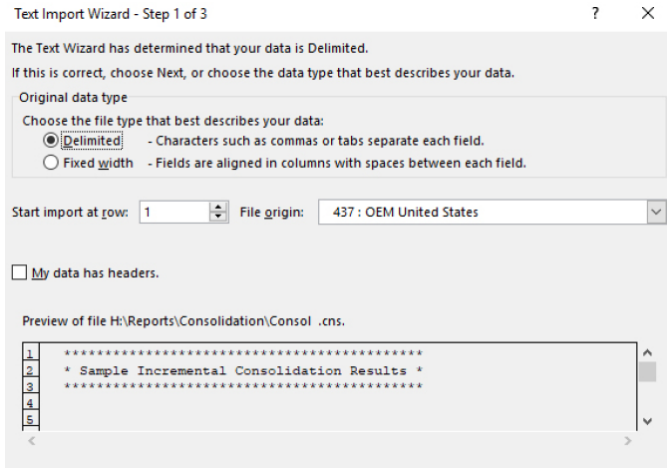

Figure 14: Text Import Wizard Step 1
4. The **Text Import Wizard** dialog box (Figure 14) will appear. Select **Delimited** then click next.